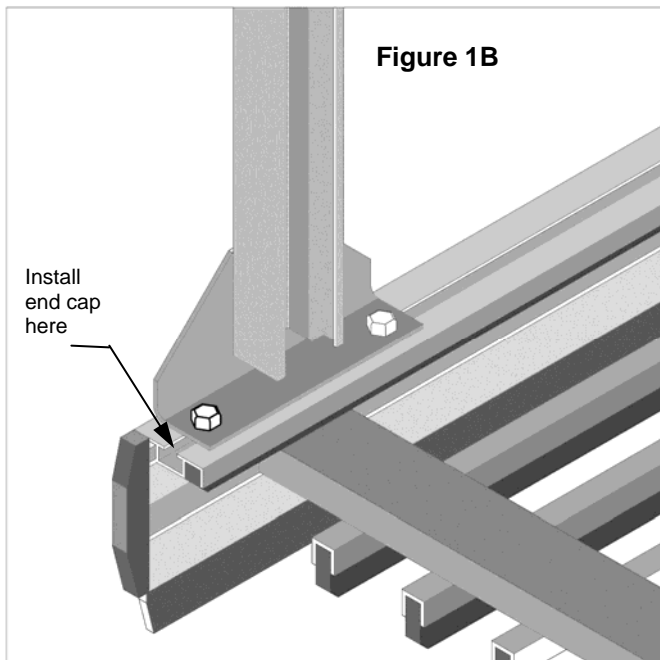

Figure 1B
1. Place the conveyor upside down on a flat, non-abrasive surface. **See Figure 1A** and **Figure 1B**.
2. Loosen bolts on stand supports enough to allow the “T-nuts” to slide into the “T-slots” located on the underside of the extruded side frames. **See Figure 1B**.
8. Install sideframe End Caps, (shipped with this owners manual) to protect exposed sharp edges. **See Figure 1B**.
8. Install sideframe End Caps on the first and final section ends, (shipped with this owners manual) to protect exposed sharp edges. **See Figure 1B on page 8.**